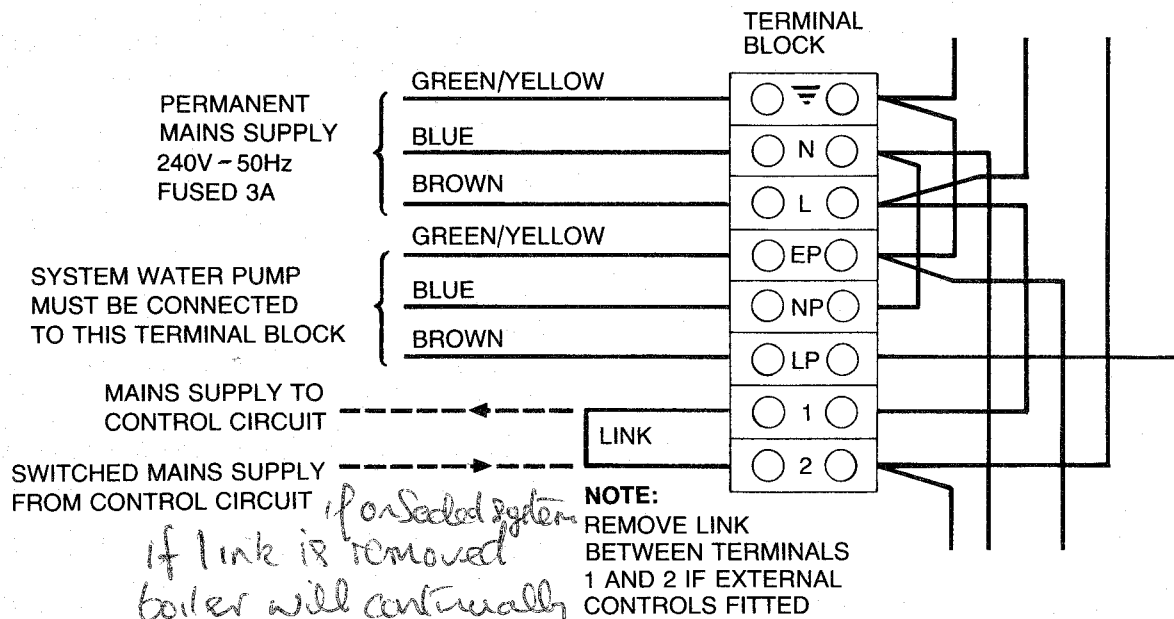

FIG. 13
2. All electrical wiring to the boiler should be secured to prevent the wire touching any hot surfaces on the boiler. Thread the power supply cable through one of the spare grommets in the rear of the control box, make the required connection to the terminal, strip and clamp the wire in the cable clamp. When making these connections ensure that the earth wire is made longer than the live and neutral wires (Fig. 13).
3. The pump lead and any external controls wiring should be passed through one of the other grommets at the rear of the control box, connected to the terminal box and secured with the cable clamp (Fig. 13).